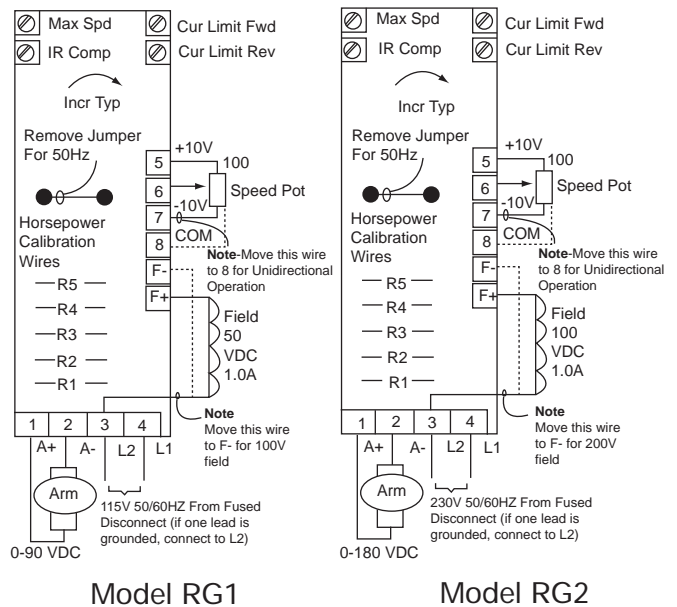

Figure 1. Connection Diagram
- Remove the applicable calibration shuntwire(s) with a wire cutter, as shown in Table 4 and Figure 1.
- For 50 Hertz operation, remove the 60 Hz jumper wire from the circuit board with a wire cutter. (See Figure 1.)
12. Connect the motor and single-phase power to the controller as shown in Figure 1. If unidirectional operation is desired, rewire the MOTOR SPEED pot as shown. Then, remove the pot's bidirectional dial plate, thereby revealing a unidirectional dial plate.
Too many calibration shunt wires removed	See Table 4 and Figure 1.